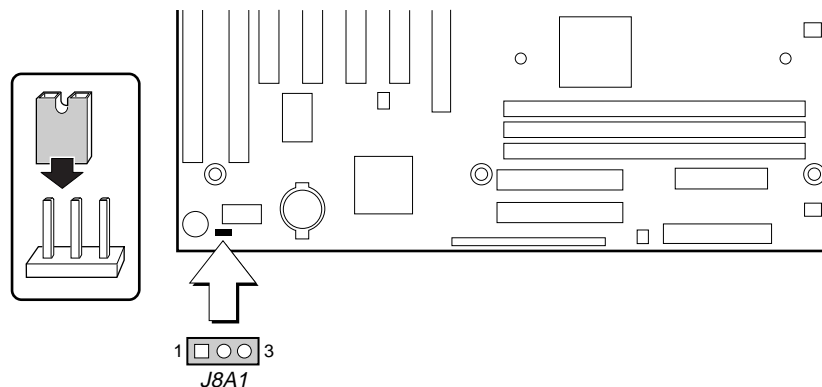

Figure 7. Location of the Configuration Jumper Block
Figure 7 shows the location of the configuration jumper block on the motherboard. The jumper is set to normal mode at the factory.
4. Find the configuration jumper block (see Figure 7).